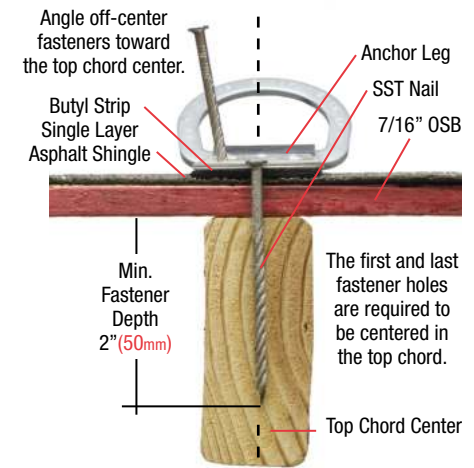

Fig.4
At the time of first installation, check the underside of the sheathing at anchor location and inspect for blow outs as shown at Fig.4. Before using the anchor, always confirm it has been correctly installed. Remove from service if any of the following conditions are present:
- 3) Fastener Blow-outs (see Fig.4).